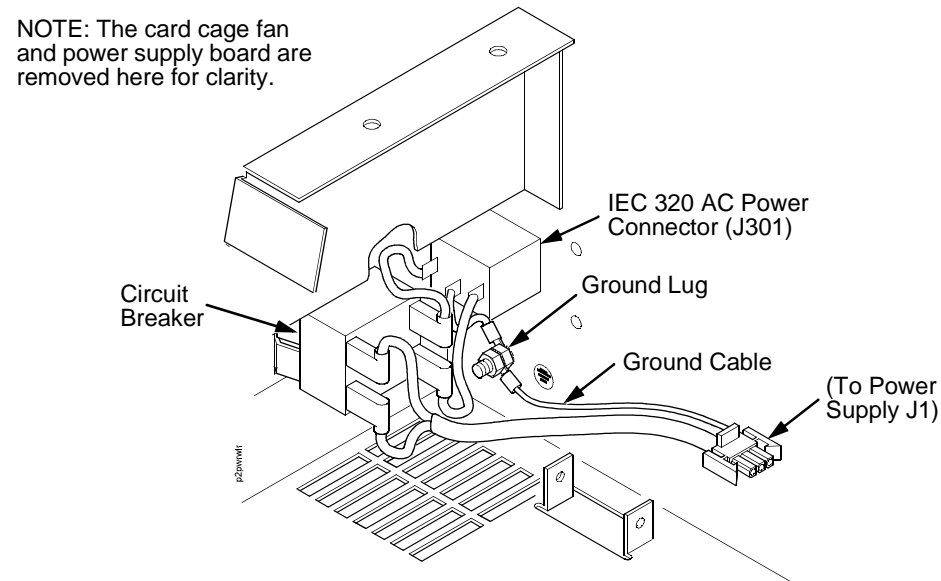

Figure 1. Detail showing the ground lug for the circuit breaker of cabinet models.
3. Make sure the ground cable from the circuit breaker power leads is undamaged and firmly attached to the ground lug on the wall of the card cage, as shown in Figure 1.